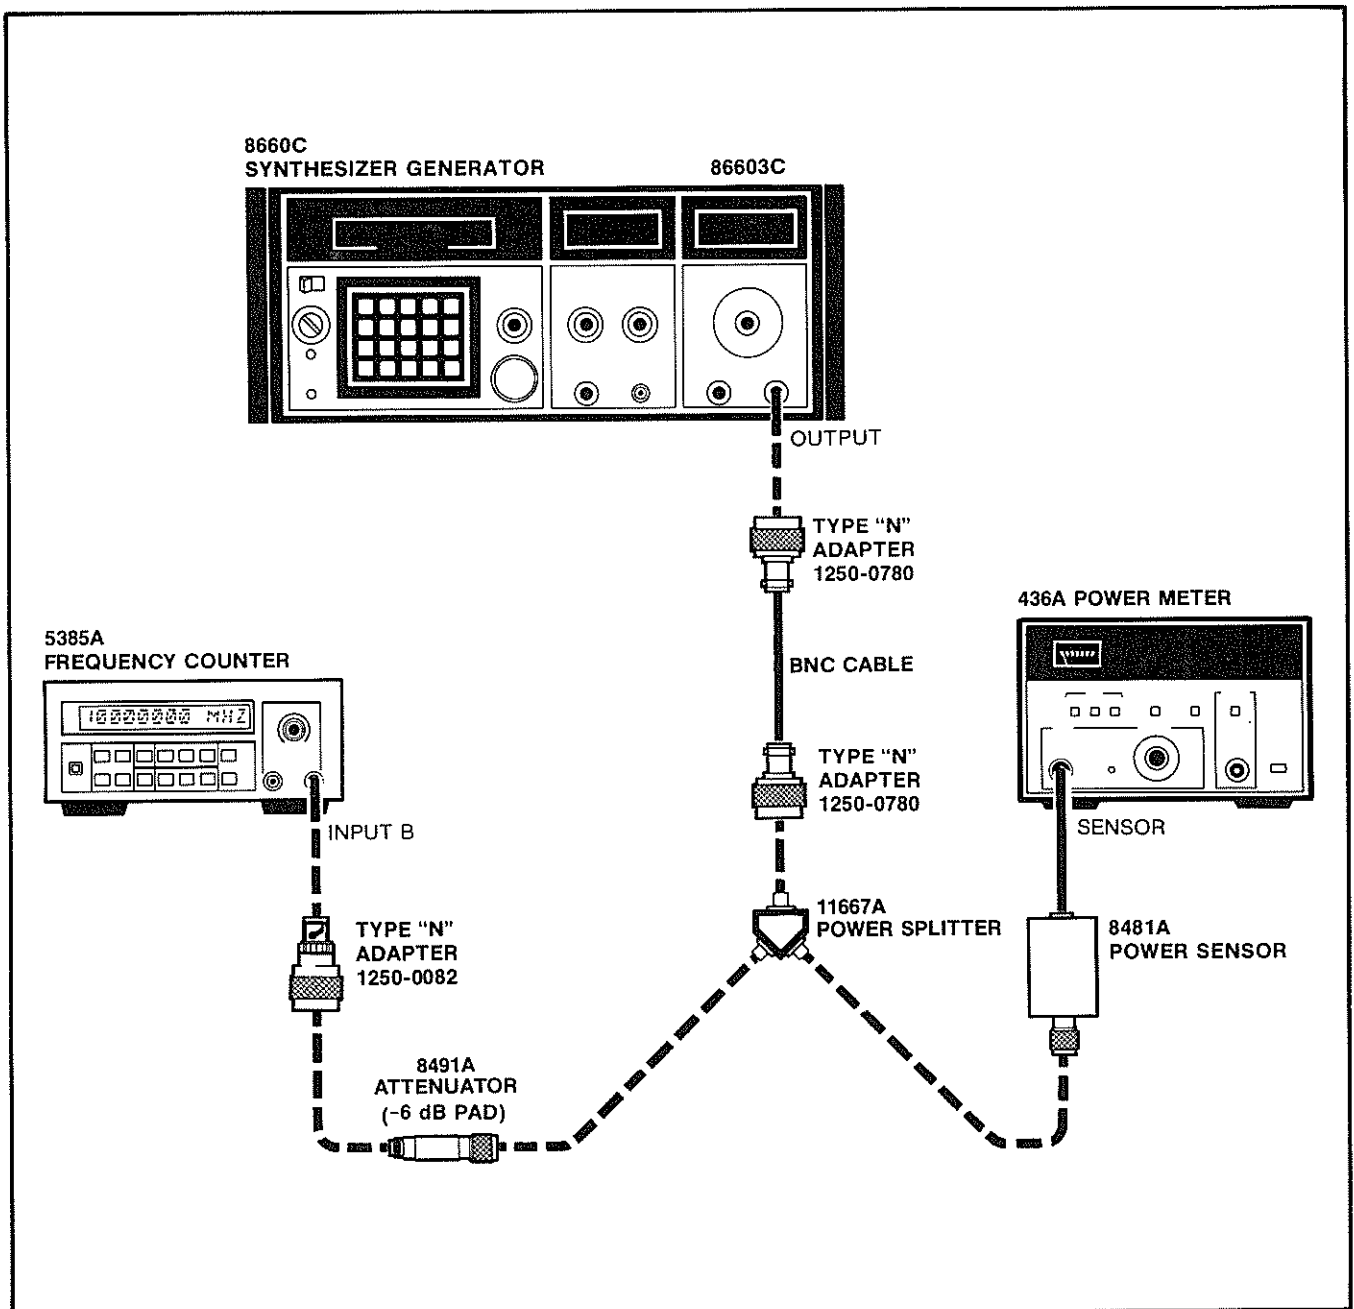

Figure 5-3. 5385A Channel B Sensitivity Adjustment Setup
b. Connect instruments as shown in *Figure 5-3*.